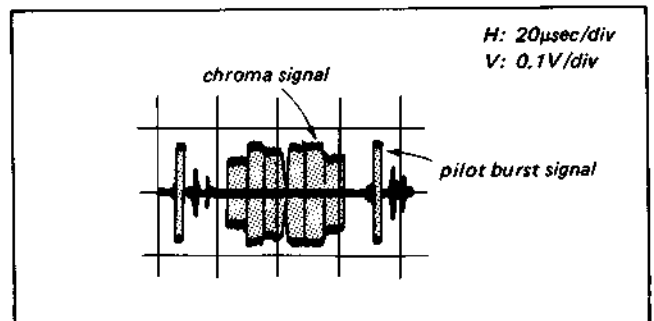

Fig. 4-33. Pilot burst adjustment
- (3) Adjust RV11 so that the level of the chroma signal becomes equal to the one of the burst signal. (See Fig. 4-33).